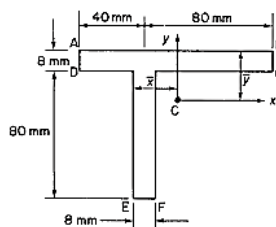

Figure 4
- (b) A beam having the cross-section shown in Figure 4. is subjected to a bending moment of 1500Nm in a vertical plane. Calculate the maximum direct stress due to bending stating the point at which it acts. [7M]